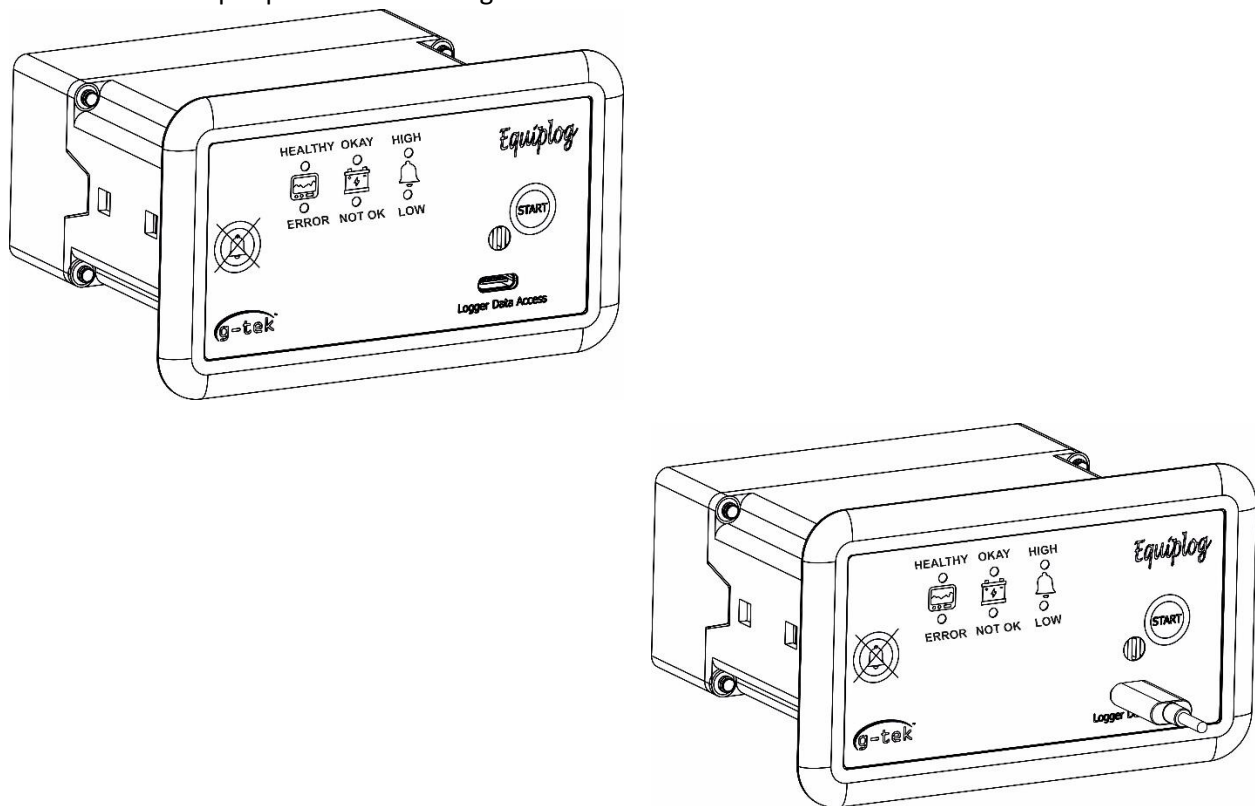

Figure 9 Inserting the USB Cover in the Data logger
- The user can access the logger data using USB Type- C M2M port, when USB port is not in use, it can be kept open as shown in figure 9.